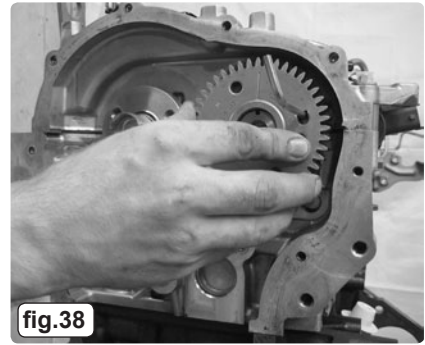

fig.38
3.6.5 Install the inlet camshaft gear and spacer and screw in a new bolt finger-tight only (fig.38) (do not fully tighten bolt at this stage).